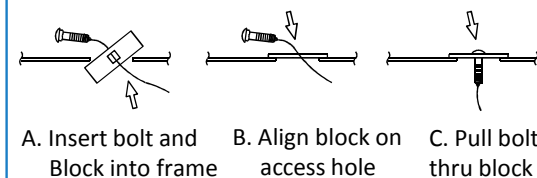

Figure 4
- Install forward most fasteners** – Using the reverse fish wire method, attach the 7/16" carriage bolts and 1/4" thick spacer blocks (item 2) to the pull wire and pull the fasteners into position, both sides. **See figure 4.**